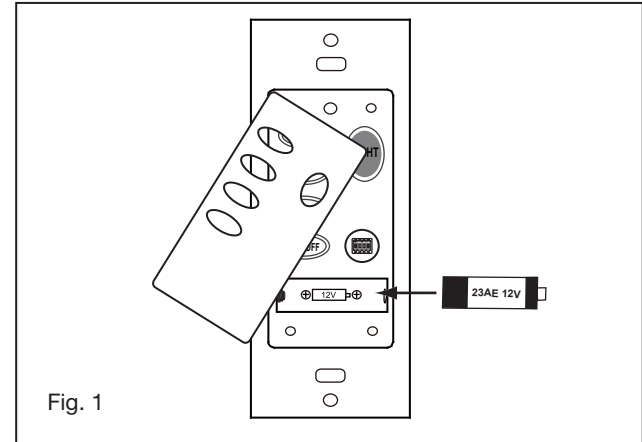

Fig. 1
- 3 **NOTE:** The Remote Control System is equipped with 16 possible frequency combinations to prevent interference from or with other remote control units. The frequency switches on your receiver and transmitter have been preset at the factory. Please recheck to make sure the switches on transmitter and receiver are set to the same position. Please recheck to make sure the switches on transmitter and receiver are set to the same position. (Fig. 1)
- 1 Remove one of the three screws on the mounting hub located on the fan motor. Loosen the other 2 screws. (Do not remove) (Fig. 1)
- 1 Remove the existing wall plate and the old switch from the wall outlet box. Wire nut the BLACK leads (hot) together and push back inside the outlet box. (Fig. 1)
- 2 Remove the face plate of the Wall Switch by lifting at the top and then insert the supplied 12V battery. Duracell MN21/Eveready A23/GP 23A all 12V. (Fig. 1)